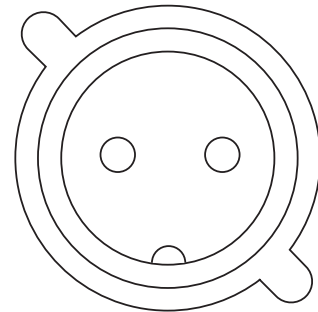

Fig. 8.2 Front view of Cathode Connector on end of Y-cord.
3. Connect the leads of the ohmmeter to the pins of the small connector. (**Fig. 8.2**). The meter should read infinite ohms.